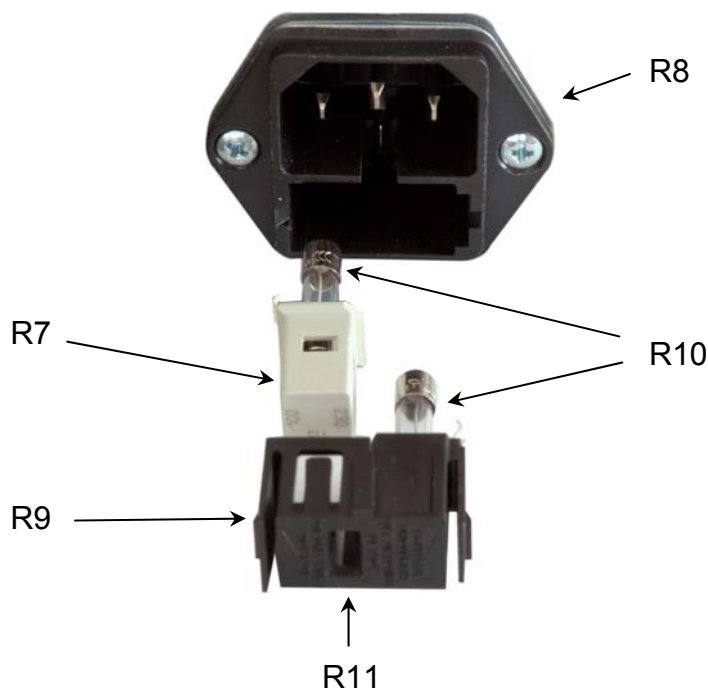

Figure 8 Setting the line voltage or changing the mains fuses
2. The fuse holder (R9, see Figure 8) is located below the 3-pole power connector of the mains jack (R8). Release the fuse holder by pressing its plastic retainers with the aid of a small screwdriver. The retainers are located on the right and left side of the holder and must be pressed towards the center.